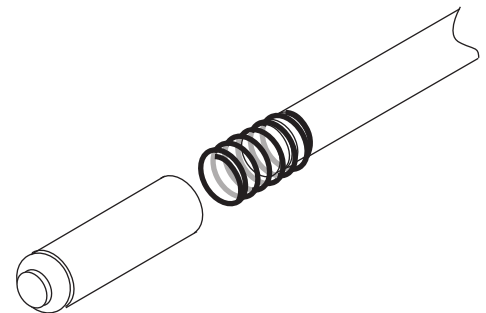

Figure 1-15. Spring End
7. Slide end cap over spring (Figure 1-15).